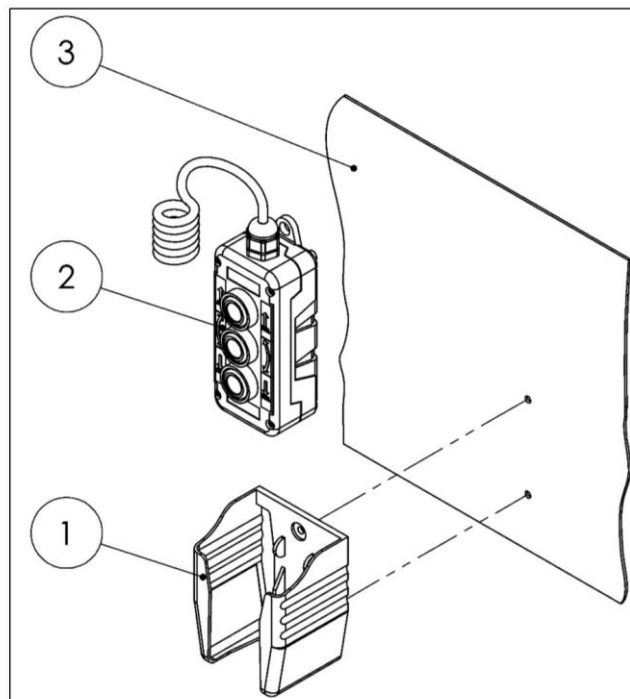

Figure 26
- Mount the bracket (1) for the Handheld control (2) on the vehicle wall (3) using, for example, 2 screws or adhesive (see Fig. 26).